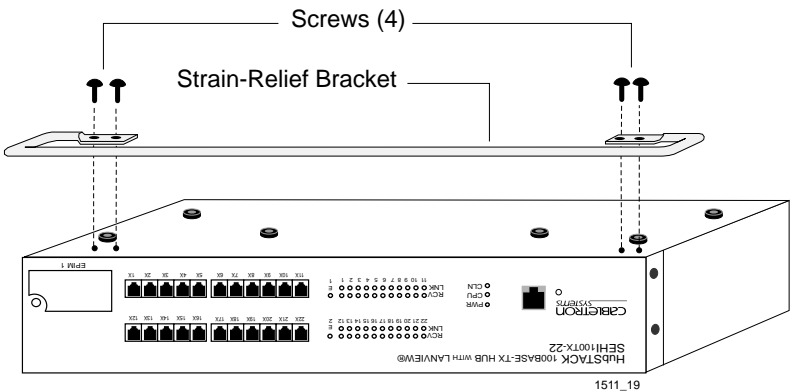

Figure 4-3 Attaching the Strain Relief Bracket
2. Attach the strain-relief bracket to the bottom of the SEHI (Figure 4-3).